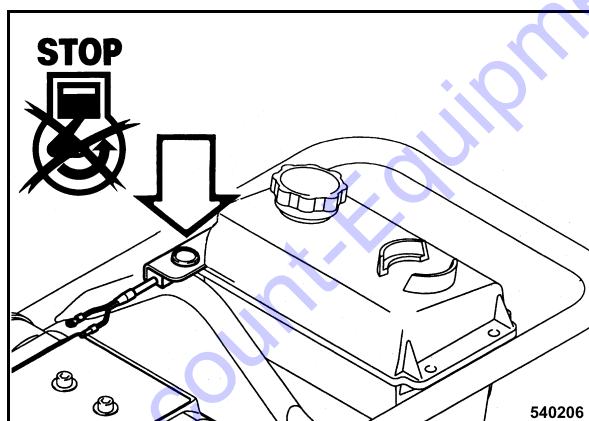

Fig. 23
- Press the engine shut-down button (Fig. 23).